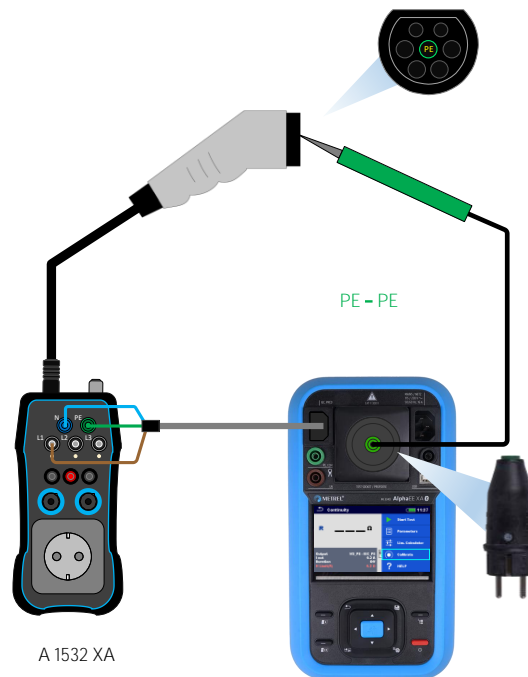

Figure 65_Test leads compensation
- Connect test leads according to the connection diagram Figure 65_Test leads compensation,